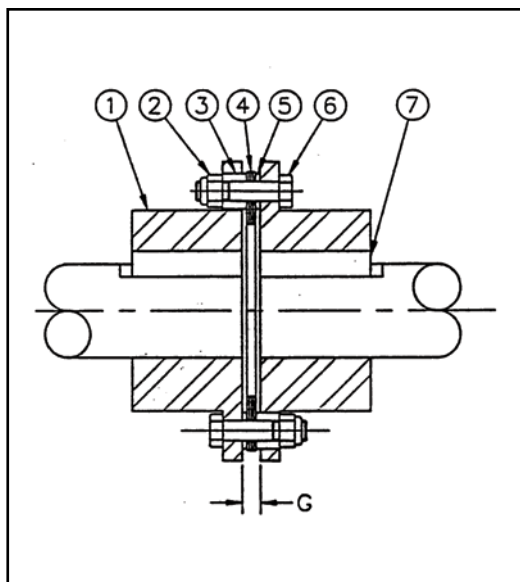
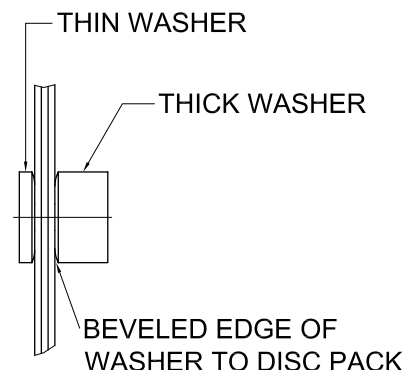

FIGURE 1
FIGURE 2
- 1) A complete coupling should consist of the components shown in the Bill of Materials in Figure 1. Examine the coupling to assure that no components are missing or damaged.
- 4) Assemble the coupling using Figure 1 and 2 as a guide. Torque the fasteners to the values in Table 2. The curved face of the element washer should face the flex disc as shown in Figure 2.